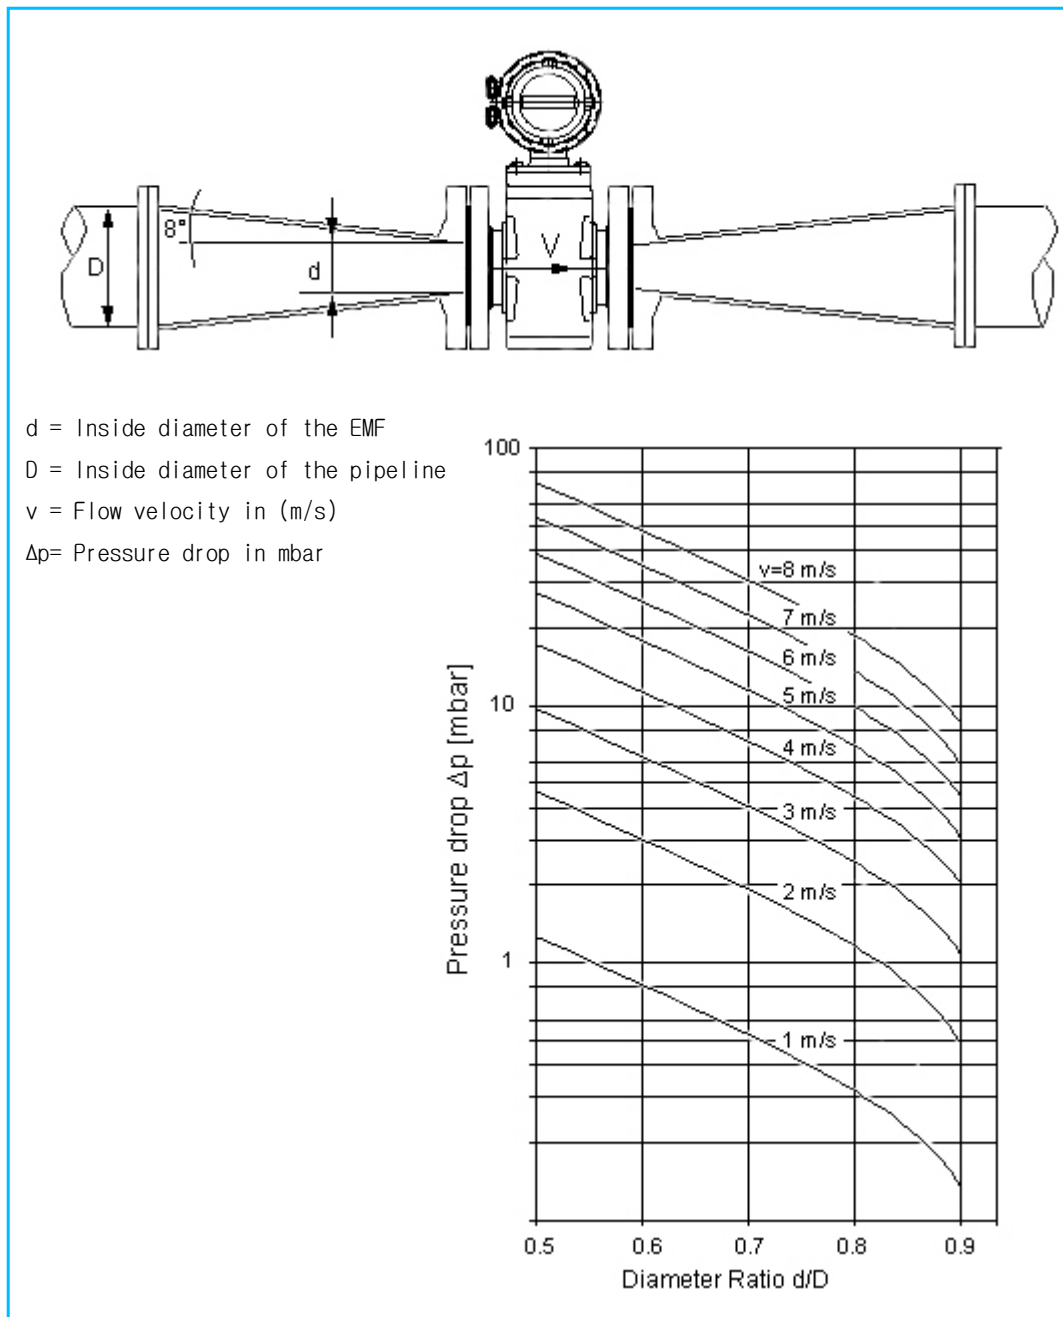

Fig. 14 : Nomograph for Pressure Drop Determination for EMF with Flanged Reducers, $a/2 = 8^\circ$
The pressure drop resulting from the reduction can be determined using the Nomograph Fig. 14 using the following procedure:
3. The pressure drop can be read on the -Y- axis at the intersection of the flow velocity curve and the "Diameter Ratio d/D " value on -X- axis in Fig. 14.